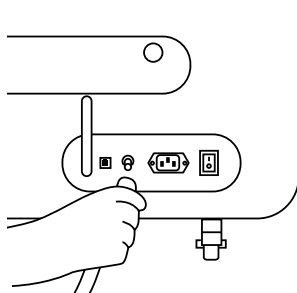

Fig. 11.1 Connecting the inert gas source.
1. Connect the source of inert gas to the gas inlet nipple on the back of the printer. It is a quick connect fitting (fig. 11.1).